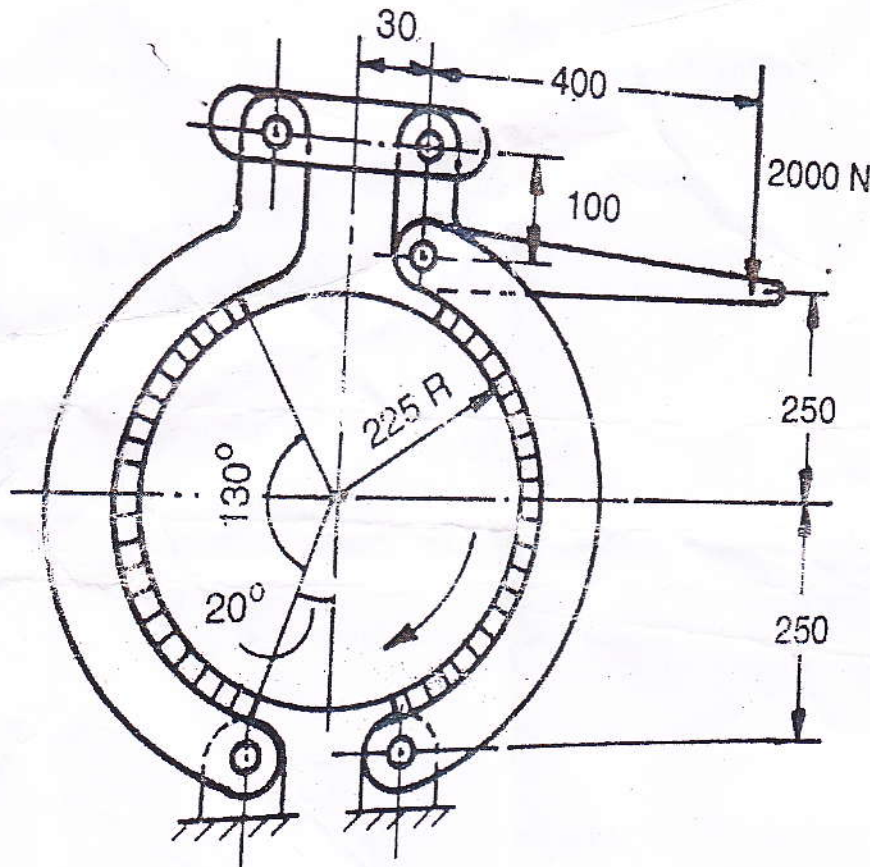

Figure I-1 Question 3 (b)
b) The brake is shown in Figure I-1 requires an actuating force of 2000N at the end of the lever. Coefficient of friction is 0.3 and maximum pressure intensity is 1 MPa. Determine the width of the shoe and the braking capacity. [8]